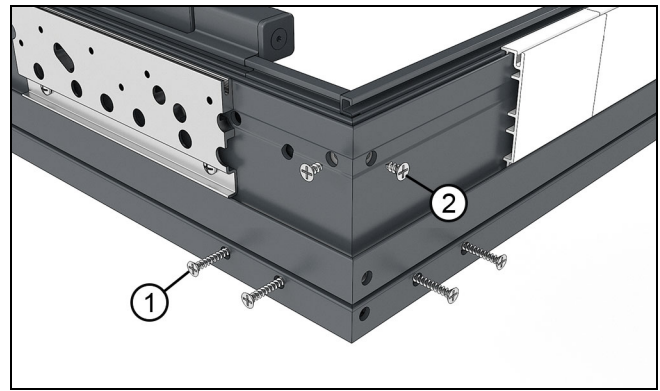

Figure 16
5. Align the head jamb to jamb and make adjustments until both miters are tight. Fasten with four #8 x 1" flat head screws to the exterior side and two #8 x 3/8" flat head screws to the interior side. See Figure 16.